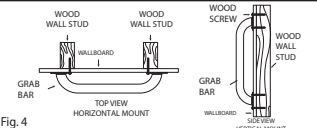

Fig. 4
10. Insert the wood screws provided into one end of the Grab Bar. Screw into wall and wall stud (HAND TIGHTEN ONLY). (Fig. 4)